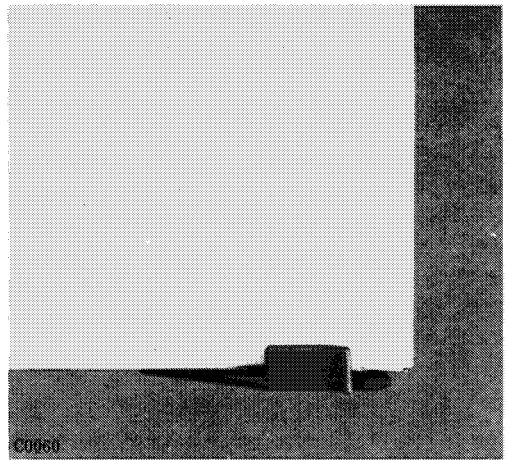
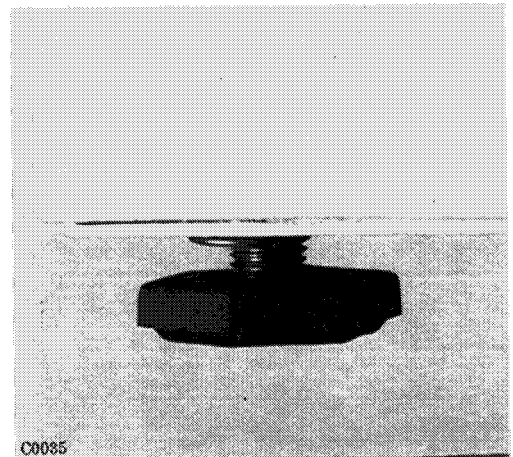

fig. 4
fig. 5
To steady the machine, return the lever back to its original position (fig. 4). Then level the appliance very carefully by adjusting the levelling feet located at the front of the base (fig. 5).
- the lever at the front bottom of the machine is in its closed position, as shown in fig. 4;